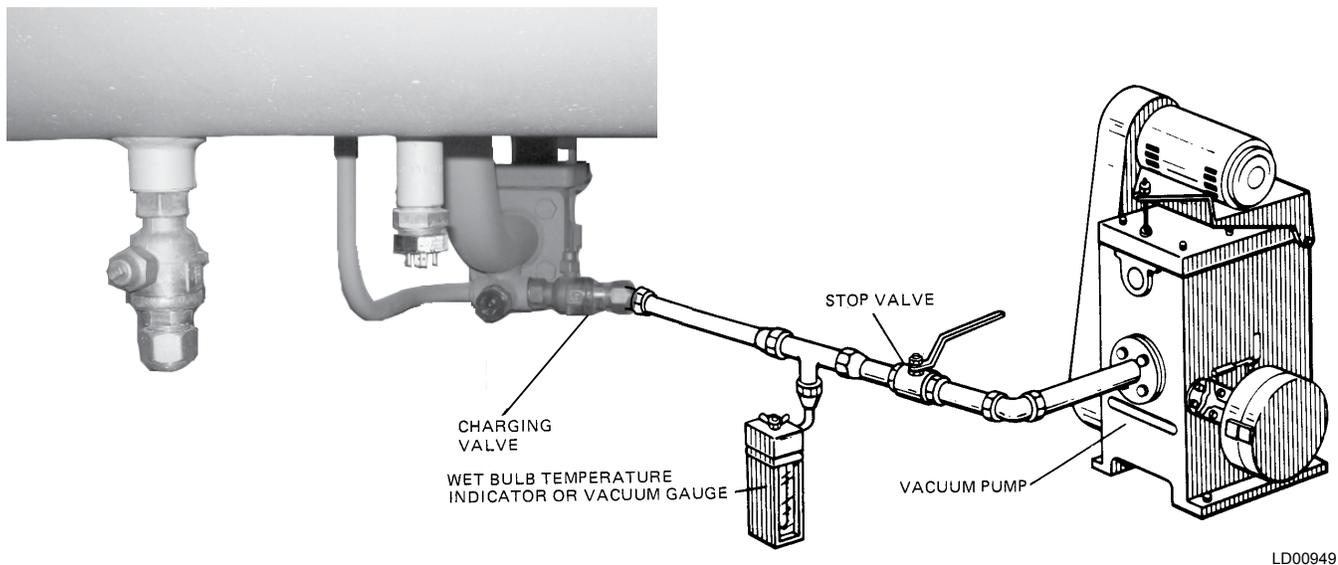

FIGURE 10 - EVACUATION OF CHILLER
1. Connect a high capacity vacuum pump, with indicator, to the system charging valve as shown in *Figure 10 on Page 22* and start the pump. Refer to *Vacuum Dehydration* in this section.